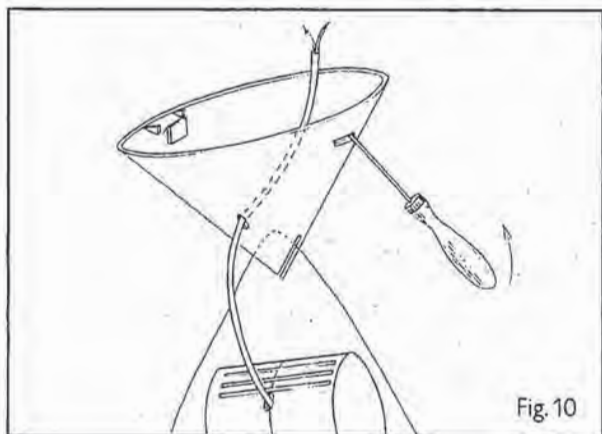

Fig. 10
5. To detach the canopy: Insert the screwdriver blade into each of the slits in the canopy and press gently from both sides (Fig. 10).